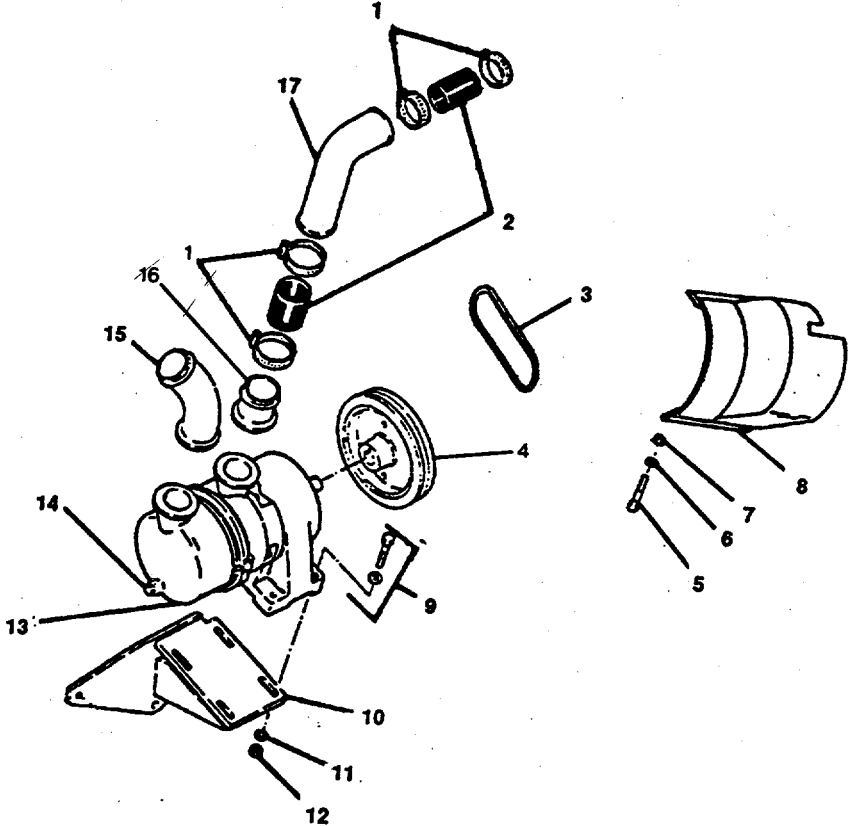

FIGURE 2-48. Seawater Pump Group.
- g. Insert expansion tube (11) into end of preformed hose (9) and secure with top hose clamp (10).
- h. Insert nonmetallic hose (12) on bottom end of expansion tube (11) and secure with bottom hose clamp (10).
- i. Install nonmetallic hose assembly (14) onto pipe to tube elbow (13).
- j. Install pipe elbow (15) onto lower end of nonmetallic hose assembly (14).
- k. Install pipe bushing (16), pipe coupling (17), and pipe nipple (18) onto pipe elbow (15).
**2-37. Replace/Repair Seawater Pump/Belt Guard Group. (FIGURE 2-48)**